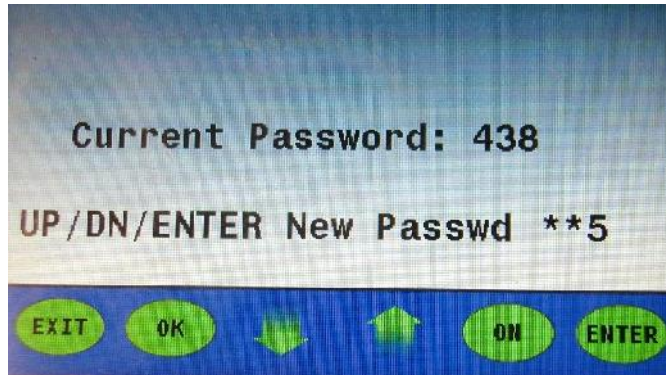

Figure 17
- Press “ENTER” and a (*) will be loaded into the second digit and the third digit “0” will start to blink **(Figure 17)**